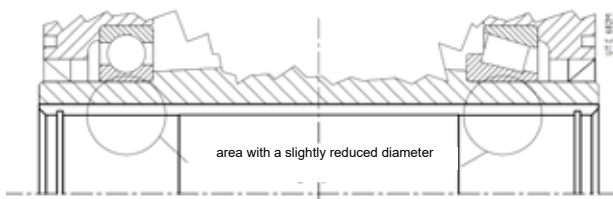

Fig. 7.8.1
**Warning!** Even if hollow low speed shaft are completely machined in H7 tolerance, a check through bott could reveal two zones with **slightly lowered** diameter (see fig. 5.6.1): this lowering is intentional and not affecting the **keying quality** – which is **improved** in terms of **duration** and **precision** – and is not hindering the mounting of machine shaft end executed as shown in fig. 7.8.1.